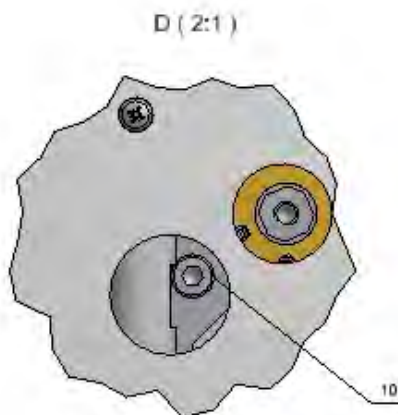

Fig. 2
10. Undo and remove screw (10) for locking internal ballast mechanism. (Fig. 2)